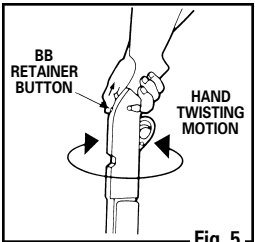
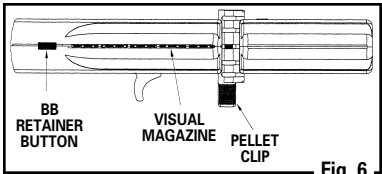

Fig. 5
Fig. 6
- Pull the BB retainer button back (Fig. 5).
- With a hand twisting motion, shake and twist the air rifle (See Fig. 5) to fill the visual magazine (See Fig. 6).
- Push the BB retainer button forward to keep the BBs in the magazine **as shown in Fig. 6**.
- Position the pellet clip so the bolt will feed through one of the pellet chambers in the clip. (See Fig. 6) **(As you push the bolt forward slowly, you can see the BB move through the pellet clip)** (See Fig. 6). The BB is now in position to be fired out of the barrel.